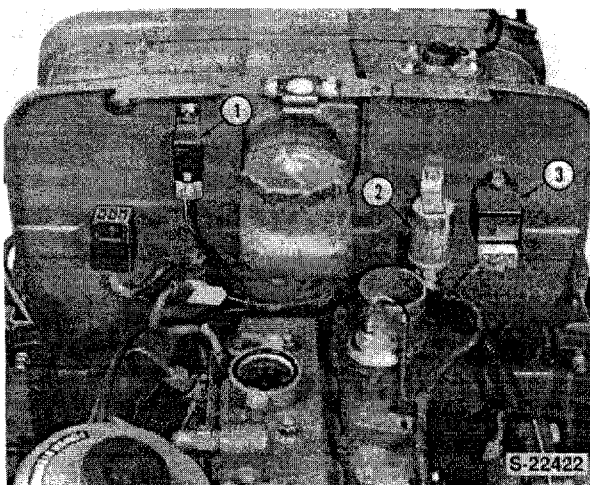

Figure 62
The switches opens and close the circuit between the key start switch and the fuel stop solenoid relay switch, (1), Figure 62.
1. Disconnect the relay wiring, Figure 62.